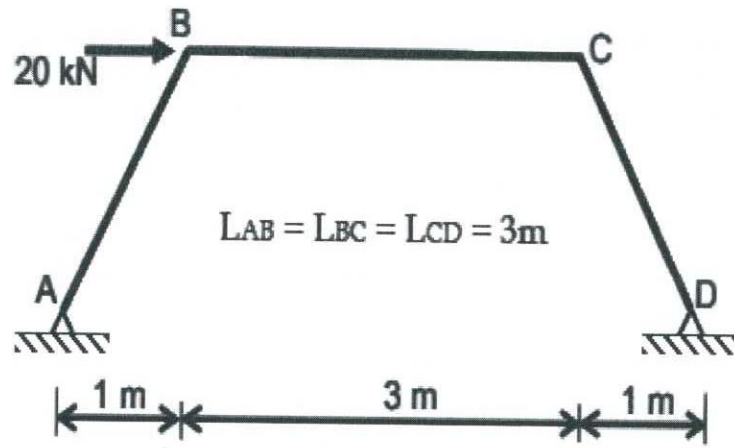

Fig. Q1
- b) Fig.Q1 shows an idealized steel frame, ABCD, used for a steel bridge structure. The frame is simply supported at both ends, A and D. A lateral load is generated at B due to wind action and is acting on the frame as indicated in Fig.Q1. All the elements are equal length, $L = 3\text{m}$ and modulus of elasticity, $E = 200\text{ GPa}$, and second moment of area corresponding to in plane bending, $I = 1.6 \times 10^8\text{ mm}^4$. Using matrix flexibility method, determine following quantities for the frame structure.